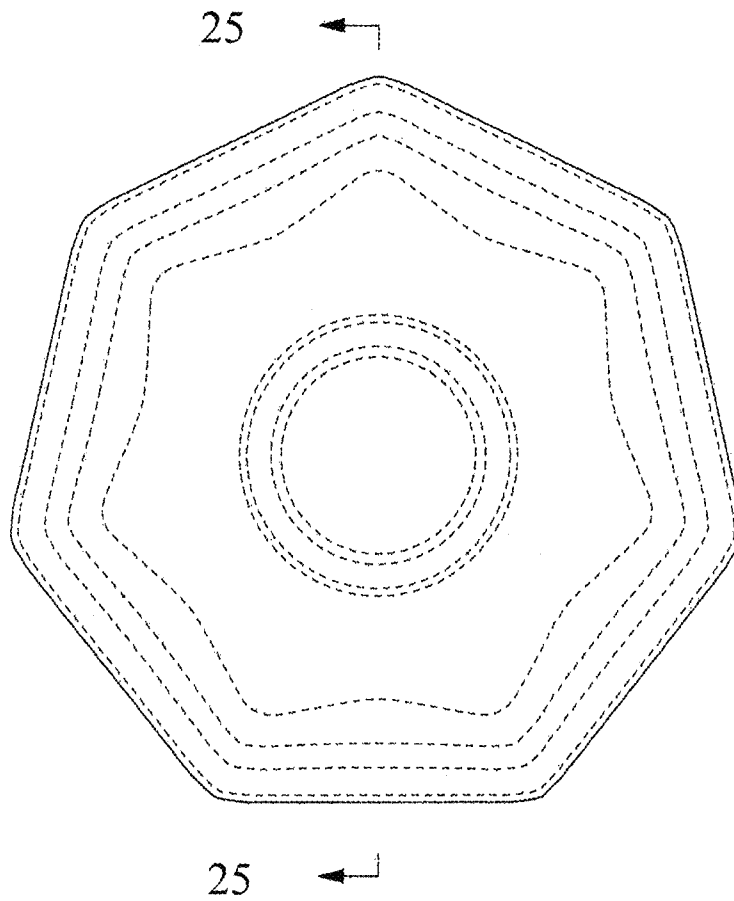

FIG. 22
*FIG. 22 is a top plan view of the fourth embodiment.*